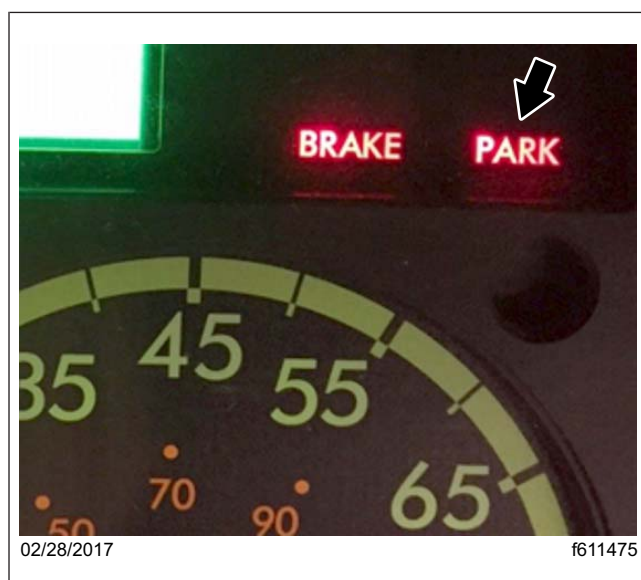
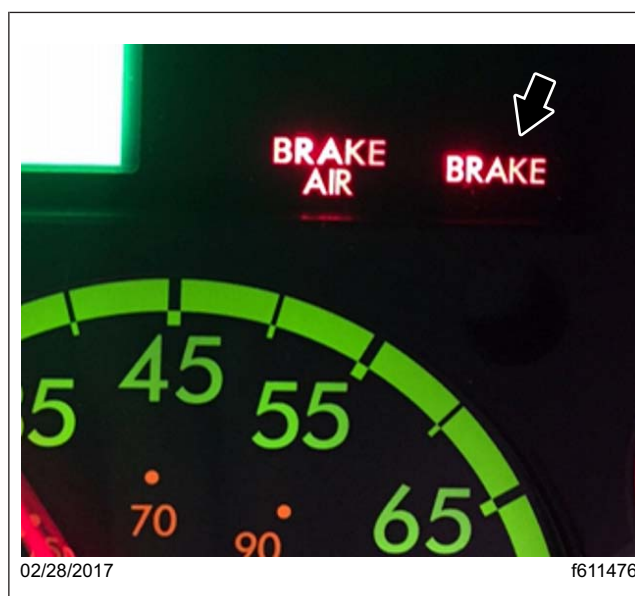

Fig. 1, "Park" Telltale - Replace ICU3S
Fig. 2, "Brake" Telltale is OK - No Replacement
3. During the bulb check at key-on, inspect the telltales on the ICU3S (affected telltales will be illuminated for three seconds). See Fig. 1 and Fig. 2